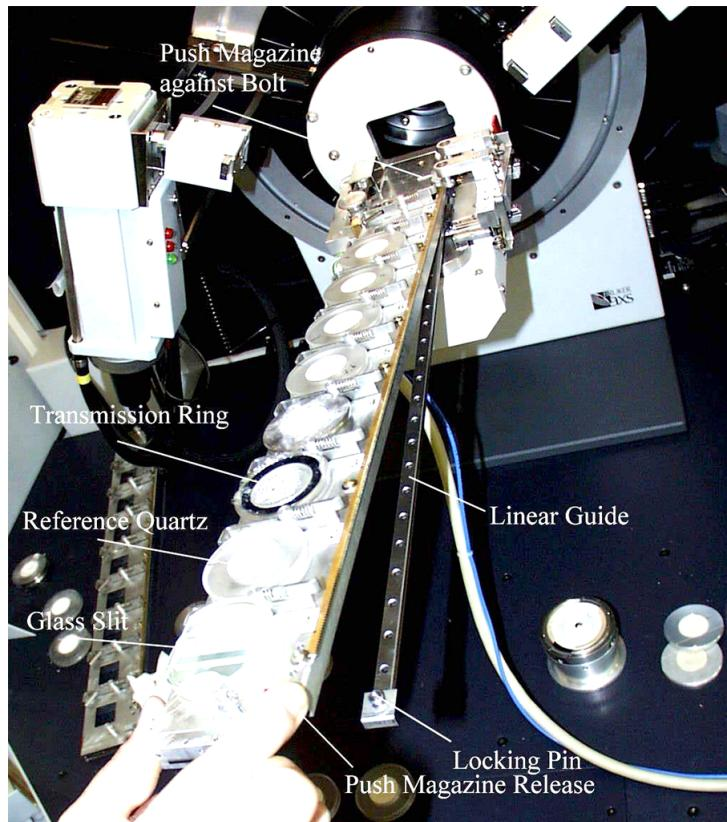
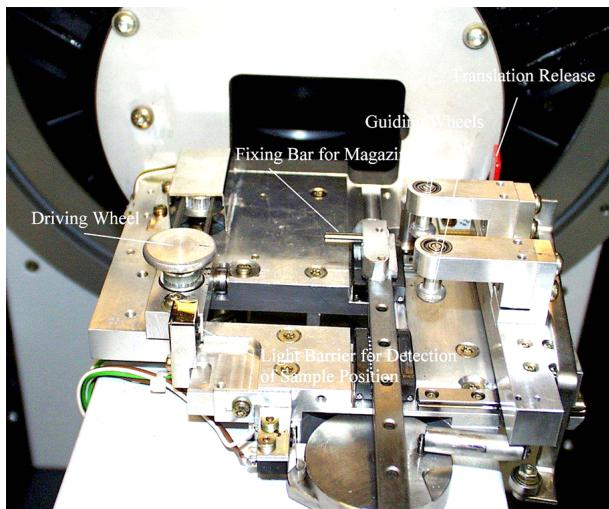

Figure 5.51: Changing of sample magazine
Figure 5.52: FLIP-STICK without magazine
3. Shift magazine against bolt (Figure 5.51, Figure 5.52).